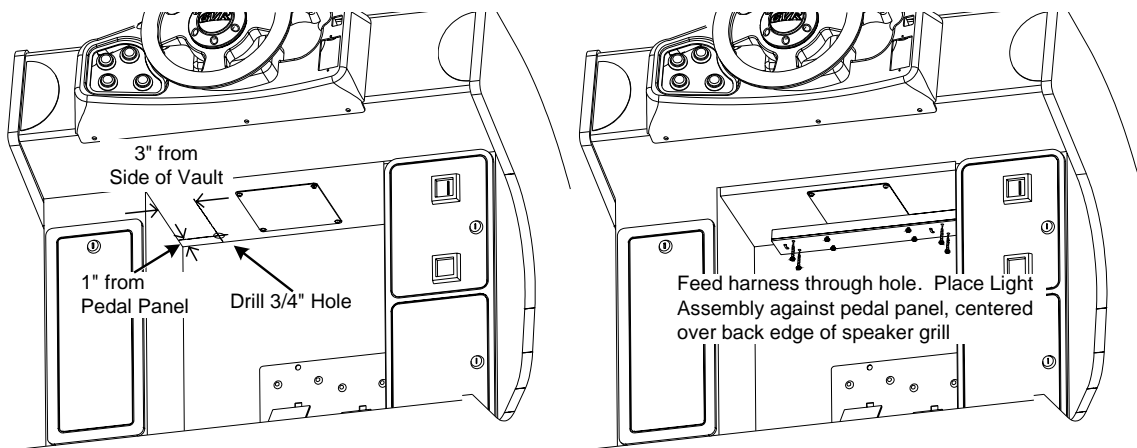

Figure 2. Light Placement on Deluxe (39" Monitor) Cabinets
- Deluxe Cabinets (39" Monitor): 1" from the pedal panel, and 3" from the left-side vault (see Figure 2).
- Deluxe Cabinets (39" Monitor): Against the pedal panel, centered between the two vaults, with the harness running through the hole that you drilled (see Figure 2).
4. Tighten the four (4) screws that are partially installed in the light assembly to secure it to the cabinet.